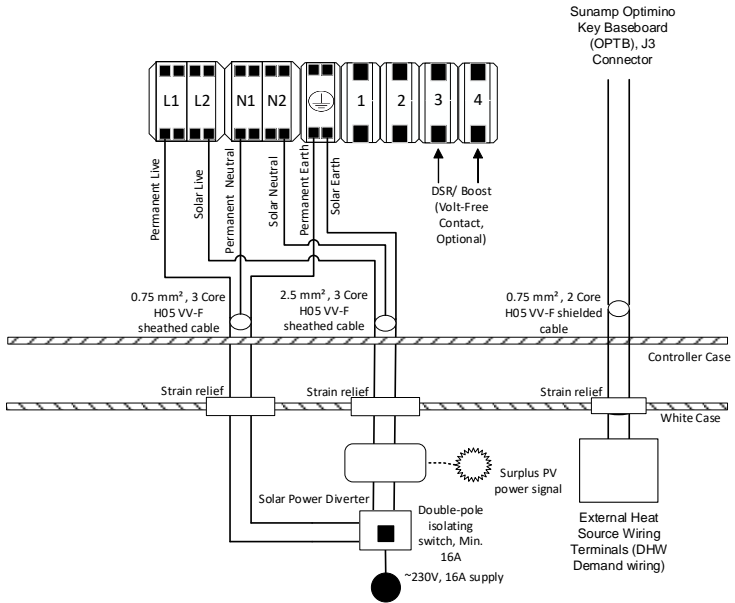

Figure 12 - Thermino xPlus Heat Battery wiring with solar power diversion
- With Solar Power Diversion follow (Section 6.3.2, Figure 12).
Potential dual-supply - Always isolate both supplies to the Heat Battery controller before working on the appliance. Ensure that Links 1 & 2 are removed (see Figure 12) and that the power diversion controller output is modulating AC.